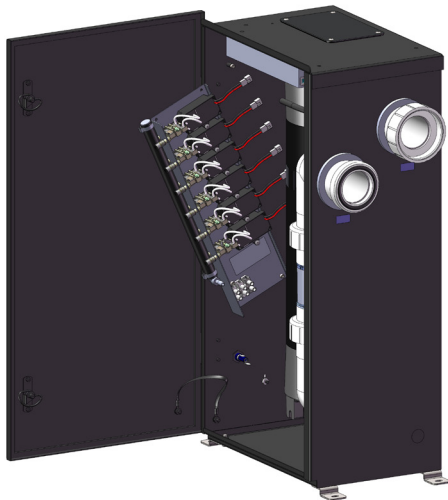

Figure 6: Ozone Bracket During Ozone Module Service
There are two lamps in the UV Reactor of the Solar Eclipse. If the UV Lamp Access Panel is removed while the unit is running, a slight glow can be seen near the top of the lamps. (Refer to Figure 6 for a more detailed view)
5. Disconnect the Ozone Gas Line and unscrew the two front mounting screws of the Ozone Bracket. Swing the ozone Bracket forward and locate the Power Connector (black and red wires) from the Module Power Supply and disconnect from the wire harness. Refer to Figure 6.